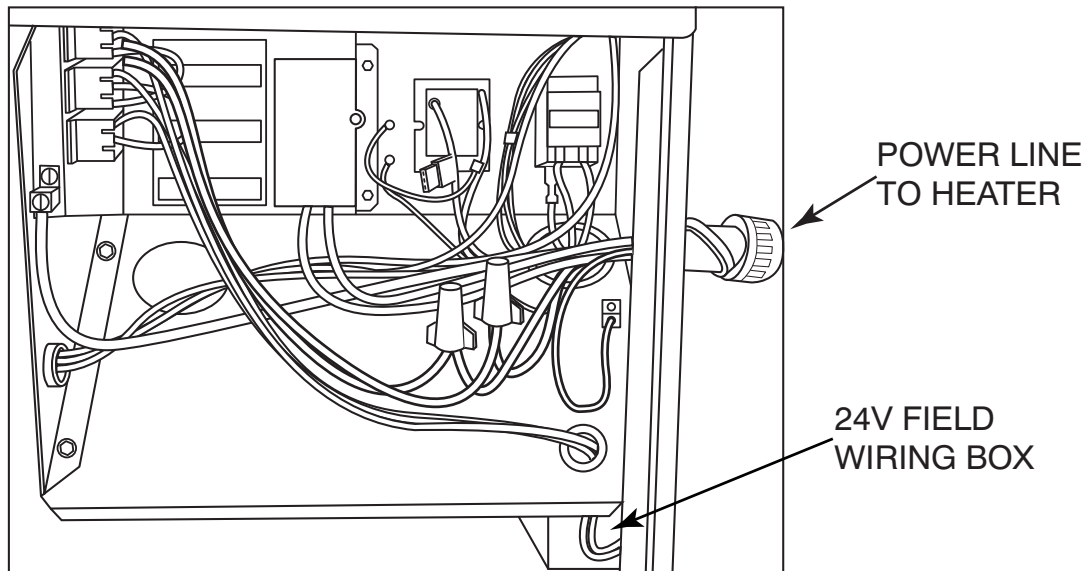
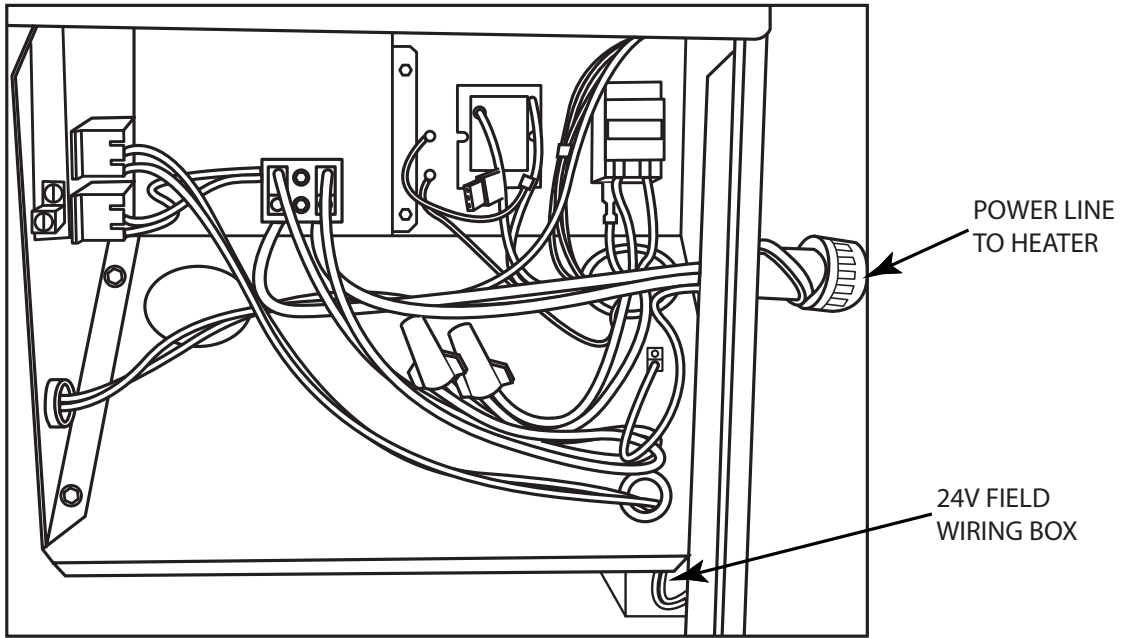

Fig. 10 - Single Point Connections For Heaters With Circuit Breakers
Fig. 11 - Single Point Connections For Heaters Without Circuit Breakers
3. Connect low voltage wires as shown in unit schematic diagrams found on the base unit installation instructions. These connections must be made in the 24v barrier section inside the unit panel (See Fig. 10 or Fig. 11).
4. Insert field power line through the Electrical Panel hole (see Fig. 10 or Fig. 11) and connect to electric heater as shown in their respective wiring diagram. Electrical heaters with factory installed circuit breakers must have their field lines connected to the breaker block lugs and electric heater without factory installed circuit breakers must have their field lines connected to the heater leads using wire nuts. Ground electrical equipment in the appropriate locations.